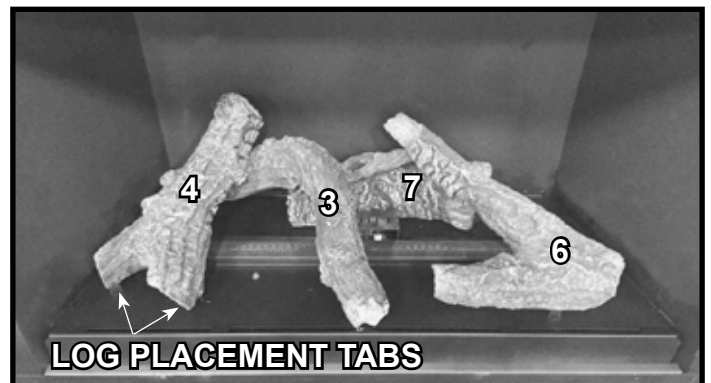

Figure 30. Place Log #4
11. Install Log #4 by placing the forked end down onto the base pan so that each fork is contacting the placement tabs as shown in Figure 30. Lean Log #4 back so it rests on Log #3.